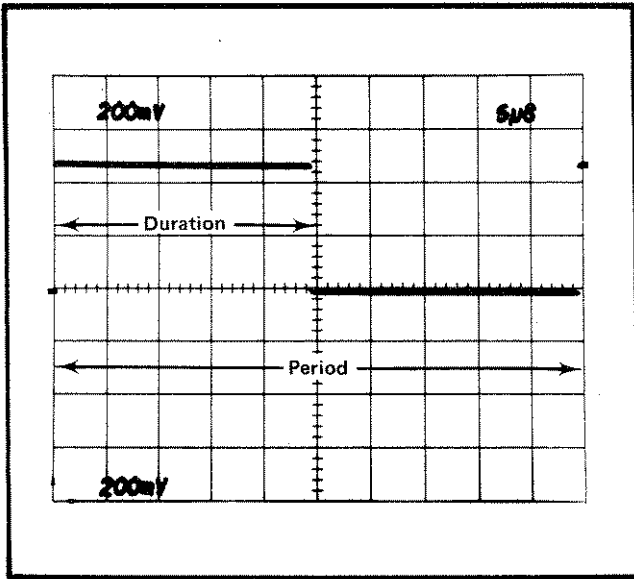

Fig. 5-2. PULSE OUTPUT period and Duration.
b. Check that the PULSE OUTPUT period is 50 μ s within 2.5 μ s (see Fig. 5-2).